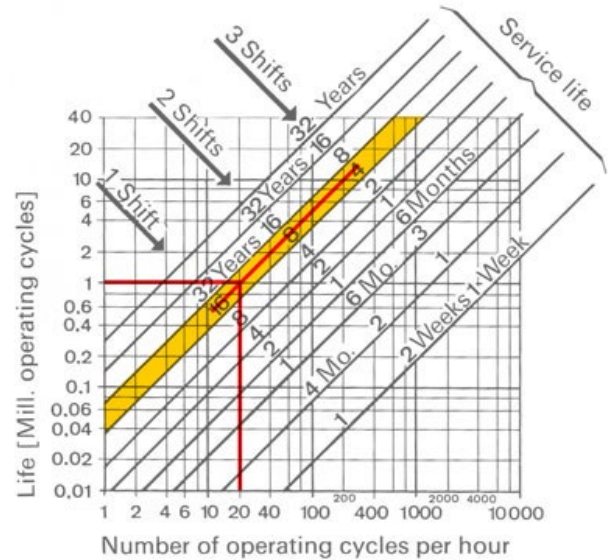

Figure 5
Example 3: What is the required life to operate a contactor at 20 cycles per hour on 2 shifts with a service life desired for 12 years? See Figure 5.
- Step one: Locate the number of cycles per hour on the X-axis (20).
- Step two: Follow the vertical line up until it interposes within the service life area for 12 years under 2 shifts (orange area in Figure 5), approximately between 8 and 16 years.